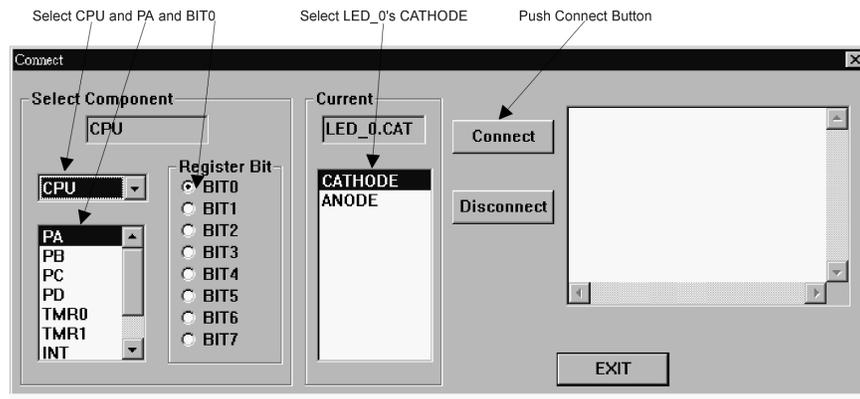

Fig 15-18
- Click the mouse right button on LED_0 to display the connect dialog box as shown as Fig. 15-18